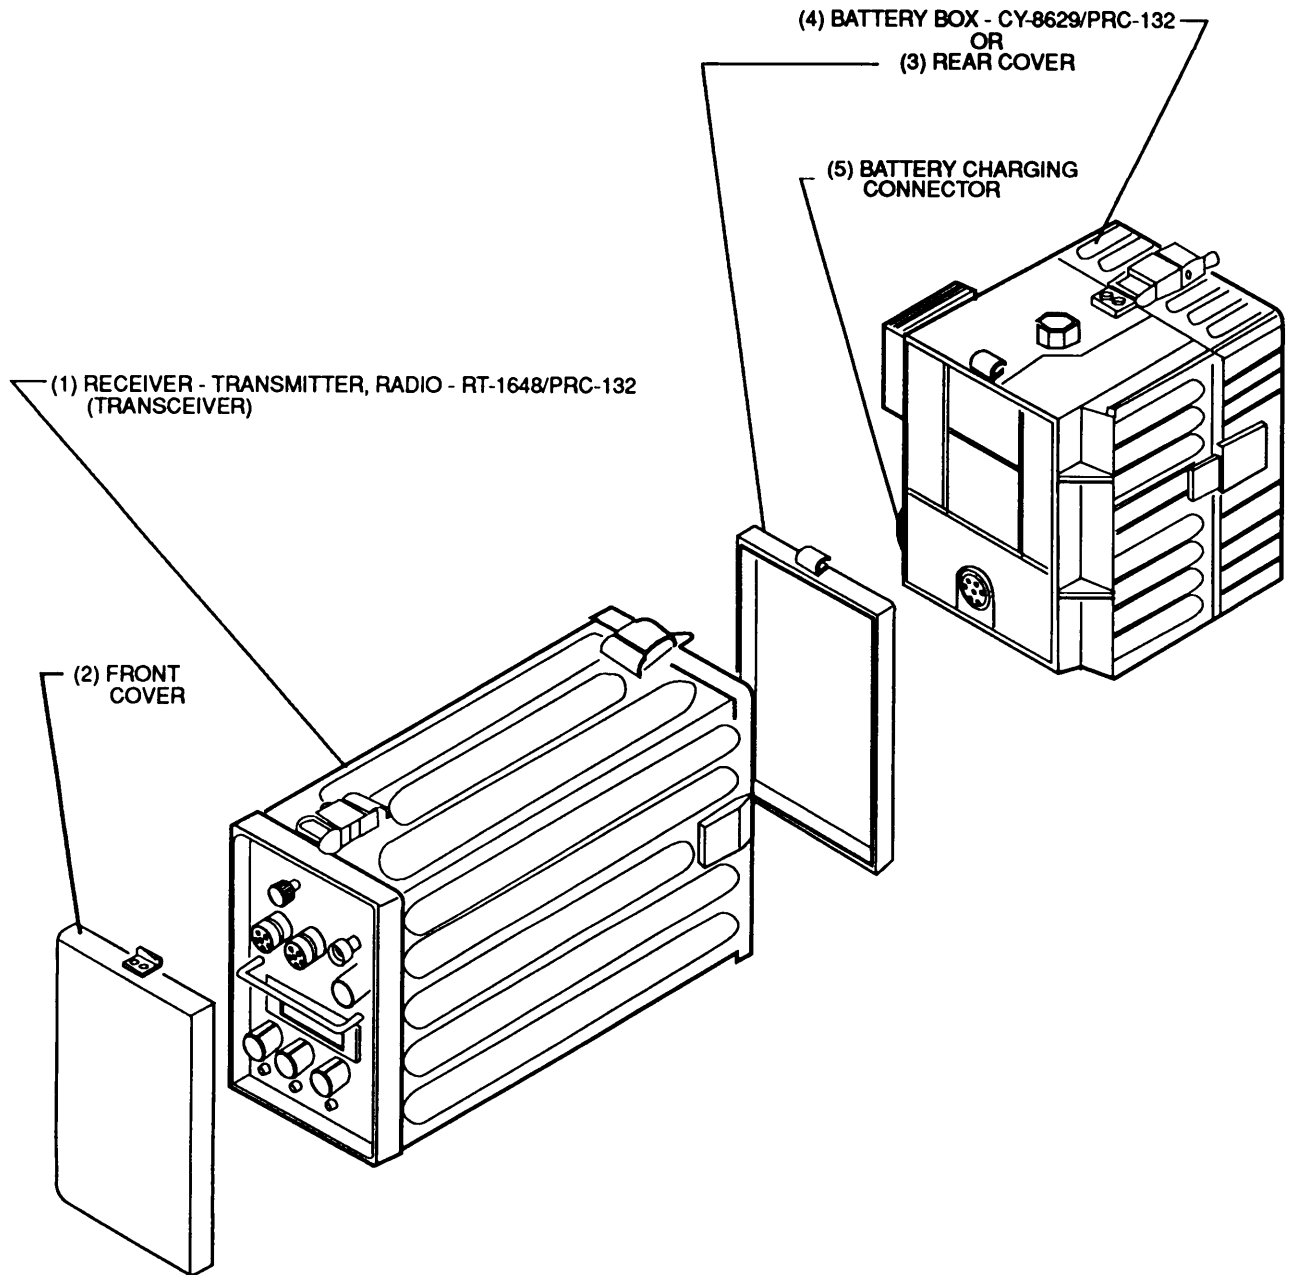

FIGURE 1-2. Radio Set - AN/PRW 32 external components
1-10.1 External Components Refer to Figure 1-2. The AN/PRC-132 radio set consists of a transceiver (1) with front and rear covers (2 & 3), and a battery box (4). The transceiver front panel contains operating controls, indicators, and connectors described in Chapter 2.